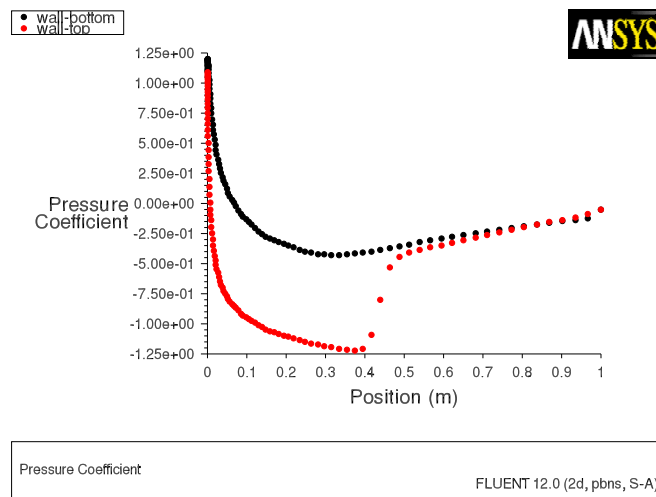

Figure 3.13: XY Plot of Pressure
3. Plot the pressure distribution on the airfoil (Figure 3.13).
Notice the effect of the shock wave on the upper surface in Figure 3.13.